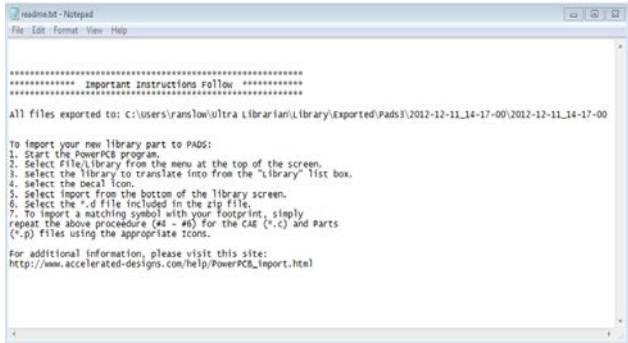

Figure 6. Exporting Files to Mentor PADS/Power Logic 4 or Newer Version and Importing to Mentor PADS v9
6. Click on the **Export to Selected Tools** option. A readme.txt file, similar to that shown in Figure 6, is then displayed. This provides guidance for importing the generated files into a Mentor PADS/Power Logic 4 or newer version.
Once the instructions given in Figure 6 are followed, the part, part logic, and PCB decal are loaded into the Mentor PADS Library.